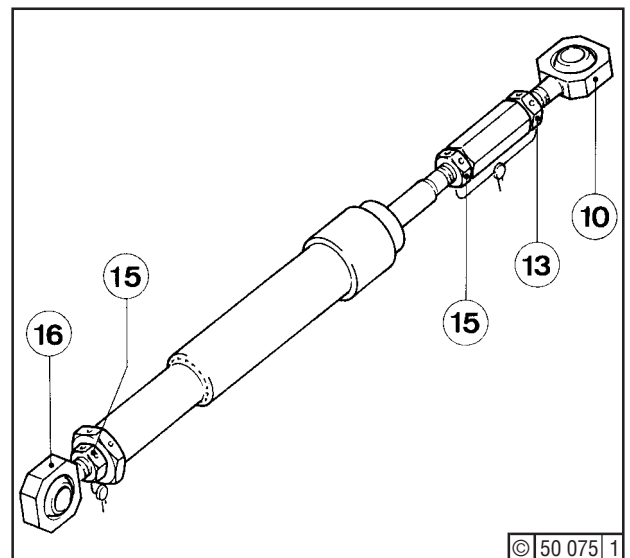

Fig. 5 Heads of the telescopic piece
Loosen hex. nuts (13) - Fig. 5 - and (15) and turn out link heads (10) and (16).